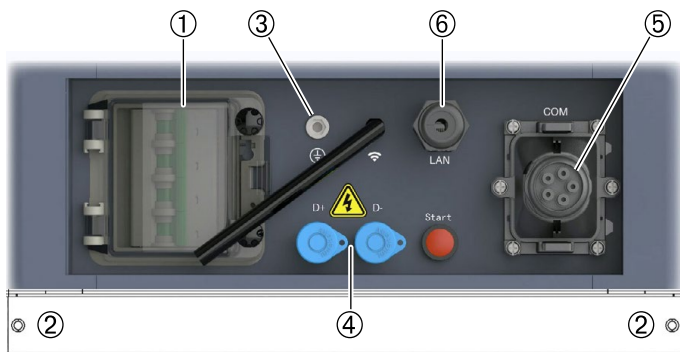

Fig. 5.1 - FC1000 control module
- Dismantle D+ and D- Power cables (4, Fig. 5.1), Communication cable (5 e 6, Fig. 5.1) and Grounding cable (3, Fig. 5.1).